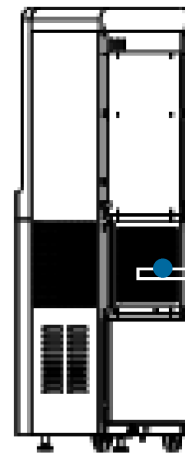

Figure 2 · Pull out the air filter
2. Pull the air filter out (Figure 2) and clean the dust from its surface with tap water or with air, then put it back into the appliance after cleaning.